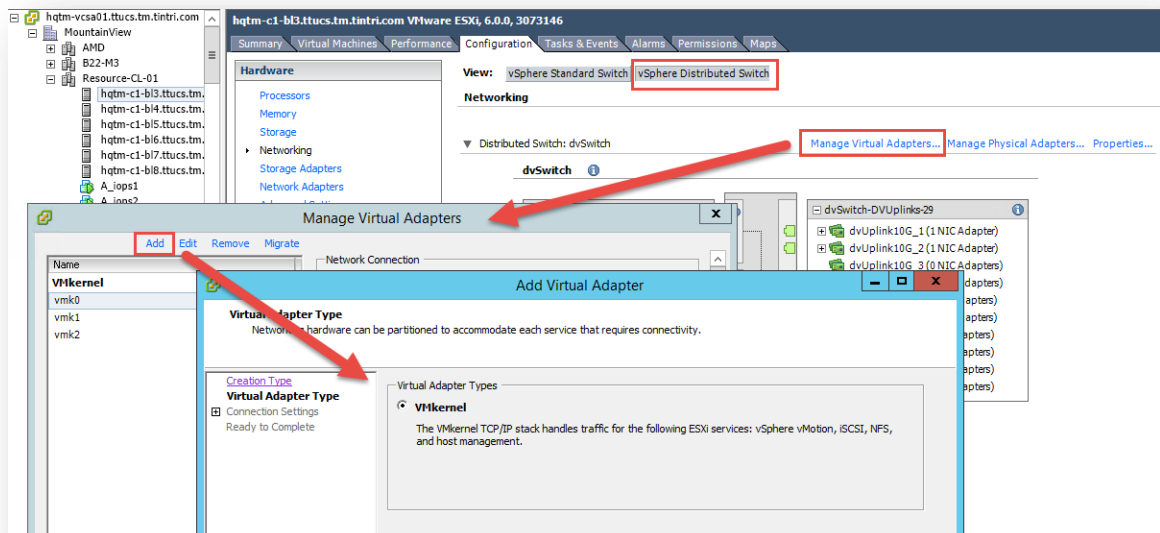

Figure 19 - Creating a new VMkernel port in the vSphere Windows Client
- a. Click “Add” in the Manage Virtual Adapters dialog, as seen in Figure 19: